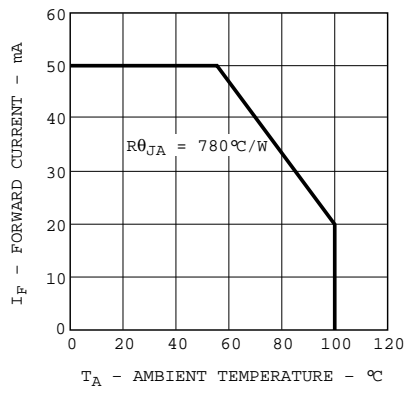

Figure 3. AllnGaP maximum forward current vs. ambient temperature.
1. Derate linearly as shown in Figure 3 for temperatures above 50°C.